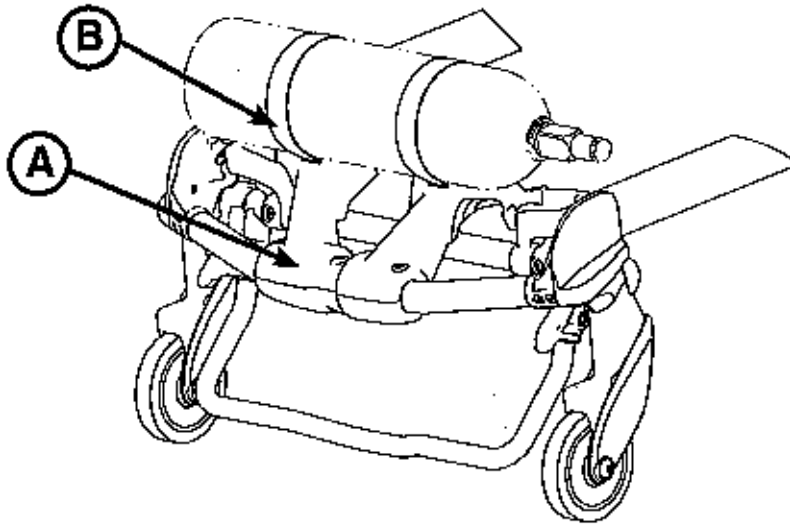

Figure 90
1. Center the oxygen bottle on the cradled surface of item (A) as shown in Figure 90.
2. Tighten both straps (B) around the oxygen bottle.